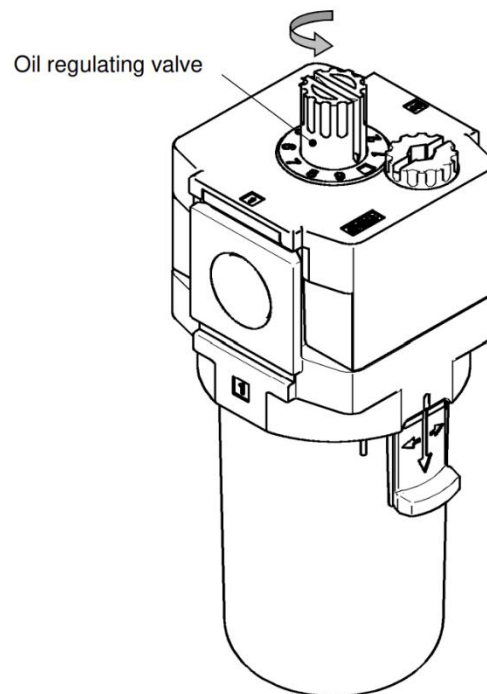

Figure 3.4-1: Lubricator – Oil Regulating Valve
2. Rotate the valve in the direction of the arrow shown in Figure 3.4-1 to increase the amount of oil supplied.